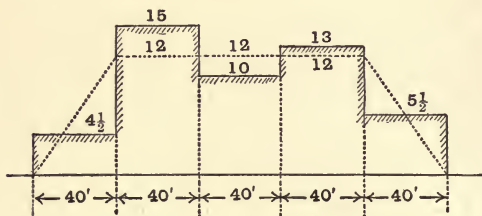

Fig. 4.
5. The load distribution (full lines) and upward water thrust (dotted lines) for a ship are given in fig. 4, the numbers indicating tons per foot run. By the method of the funicular polygon or otherwise, draw the bending moment and shearing force diagrams for the ship.